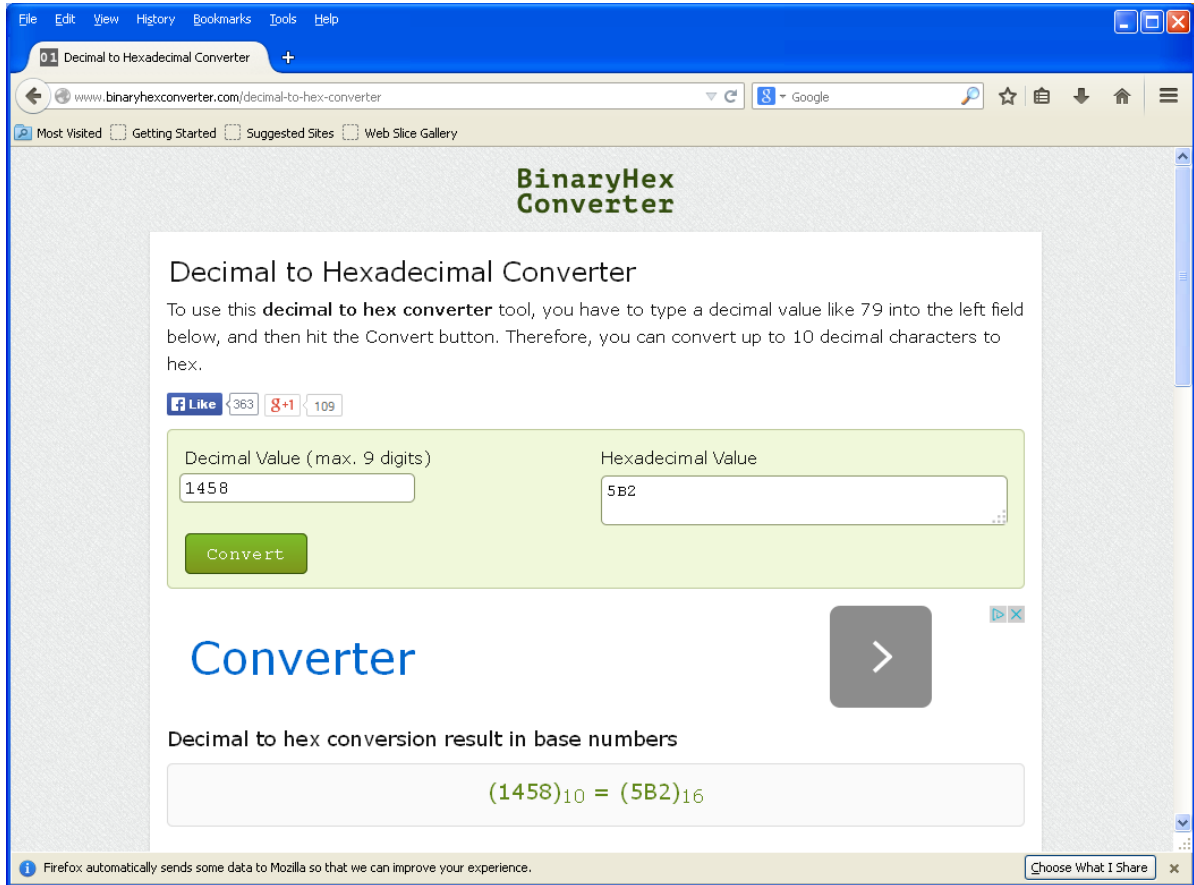

FIGURE 6-22. Web-based decimal to hexadecimal converter
2. Remove the CPU module and note the serial number. Convert the serial number from decimal to hexadecimal (base 16). Web-based converters are available. FIGURE 6-22 shows an example, converting serial number 1458 to its representation in hexadecimal, 5B2.
7. Enter **1** (Ethernet Address). At the prompt, enter **0x** followed by a four-digit hexadecimal value. If the serial number in hex is less than four digits, use leading zeros to create a four digit hex number. In the example shown in FIGURE 6-22, the serial number entered would be 0x05b2.